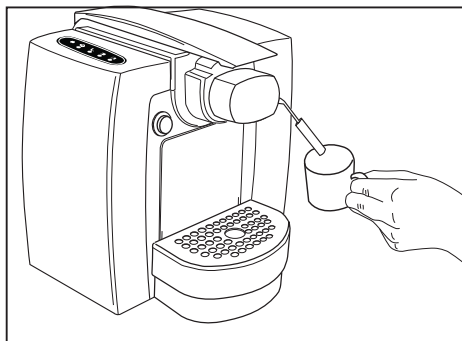

Fig. 14
- Fill a cup half way with cold milk and dip the steam nozzle into the milk giving the milk a creamy frothy appearance till it fills the cup (Fig. 14)
- To dispense warm water, place a cup under the nozzle (Fig. 14) and press button (C) (C)